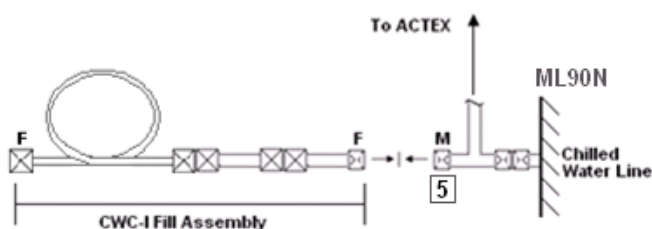

Figure 10-1.- CWC-I Fill Assembly connection at ML90N.
2. Connect R/Y QD Adapter of CWC-I Fill Assembly to free end of Tee attached to Chilled QD (#5) at QD bracket (see fig 10-1)